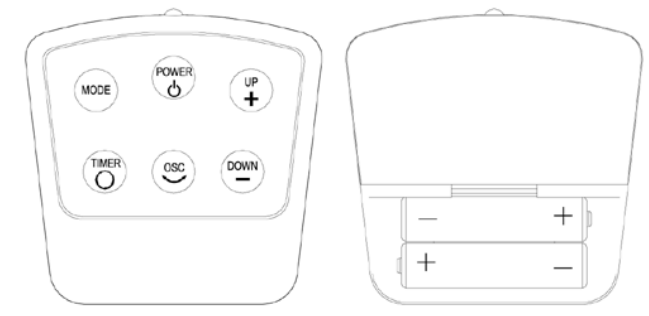

FIGURE 7
The heater may be operated by the manual controls located on the heater (as shown in FIGURE 1) or by your remote control (shown in FIGURE 7).
1. Install two "AAA" batteries as shown in FIGURE 7.